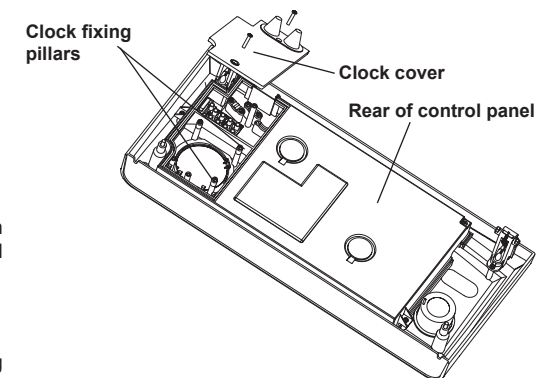

Fig. 2
2. Installation of Receiver into boiler - see Fig. 2